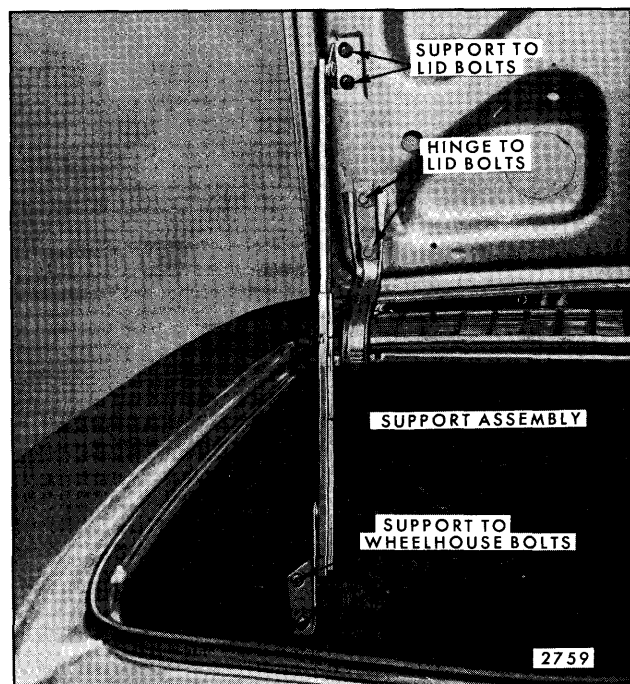

Fig. 8-4—Engine Compartment Lid Attachments - All "Z" Styles
3. With the aid of a helper holding lid in open position, remove lid support attaching bolts from lid (see Fig. 8-4).
4. With lid properly supported, remove hinge strap to lid attaching bolts and remove engine compartment lid from body (see Fig. 8-4).